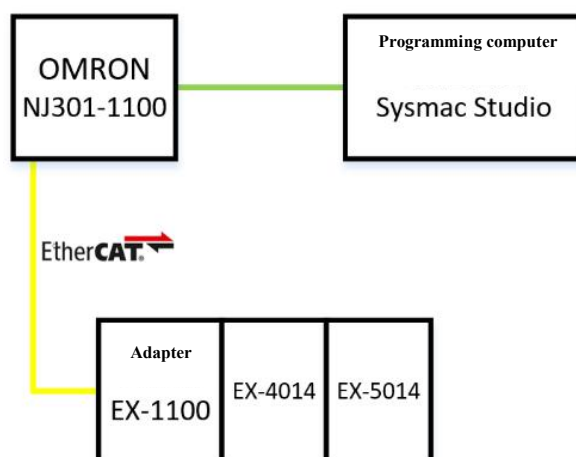

Figure 5-1-27 Communication connection diagram
1. Communication connection diagram, as shown in Figure 5-1-27.